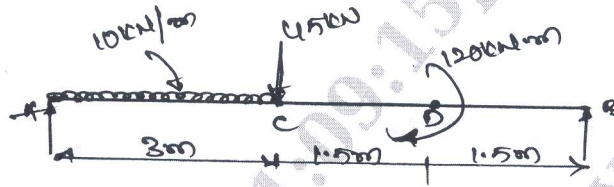

Fig Q6
- 6 A simply supported Beam AB of 6m span is loaded as shown in Fig Q6. Draw shears force and bending moment diagrams. Also indicate the point of contraflexure, if any.